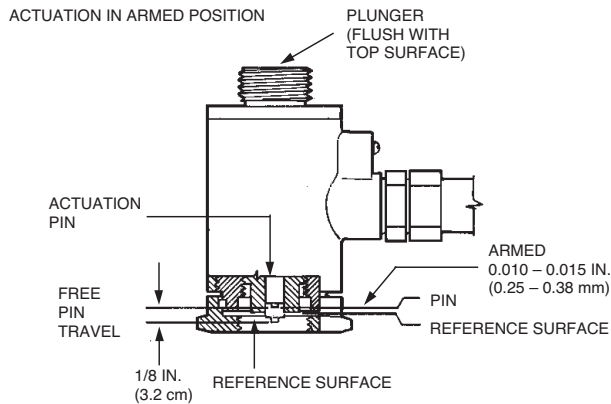

FIGURE 11
- a. The actuator is armed if the following conditions exist: See Figure 11.